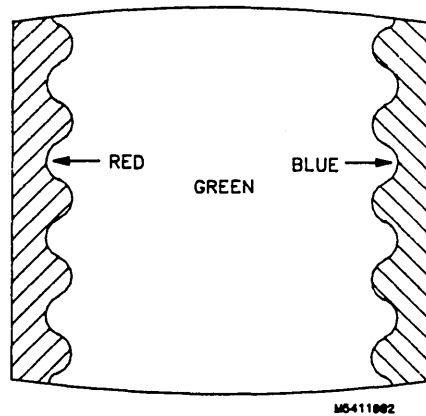

Figure 4-16. Purity Magnet Adjustment Raster.
6. Move deflection yoke rearward until left edge of raster turns red and right side of raster turns blue (see figure 4-16).